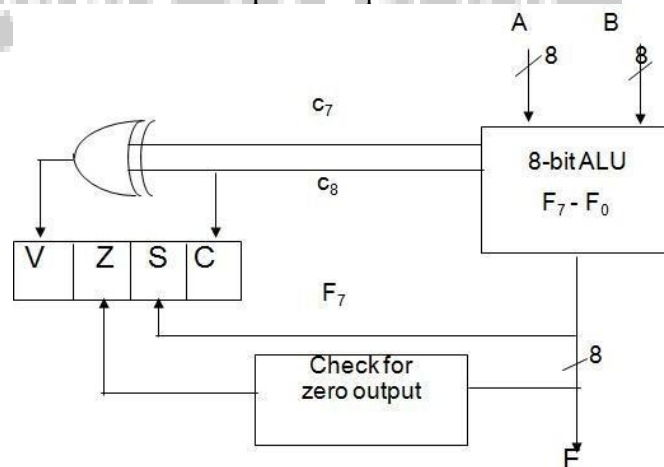

Figure 5.3: Status Register Bits
- Figure 5.3 shows the block diagram of an 8-bit ALU with a 4-bit status register. The four status bits are symbolized by C, S, Z, and V. The bits are set or cleared as a result of an operation performed in the ALU.